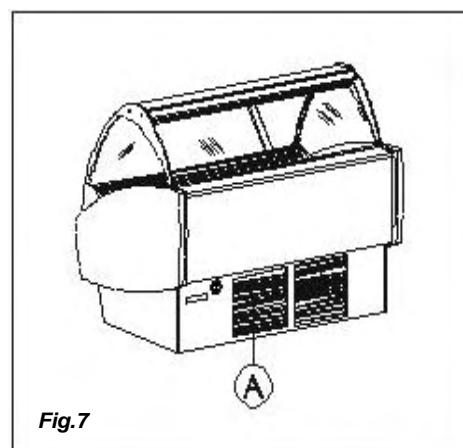

Fig.7
- the cooling air grills of the condenser are not blocked (fig. 7 , pos.A);